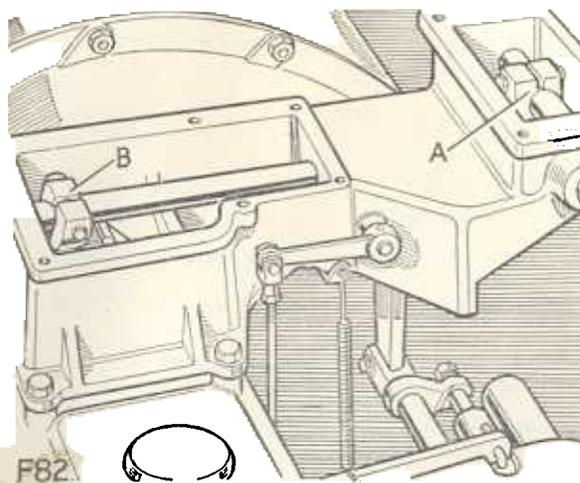

Fig. 19. Gearbox controls, rear housing
1. **Main gear control.** Slacken the pinch bolt retaining gear change selector lever to the cross-shaft, until it is clear of its threads. See 'B', Fig. 19.
2. Retain the main gear lever in a central neutral position, and move the rear selector lever ('A', Fig. 19) to the centre of the housing aperture. Tighten the pinch bolt securely.
4. If the above condition cannot be obtained the length of the longitudinal rod will need adjustment as detailed in items 5 to 7.